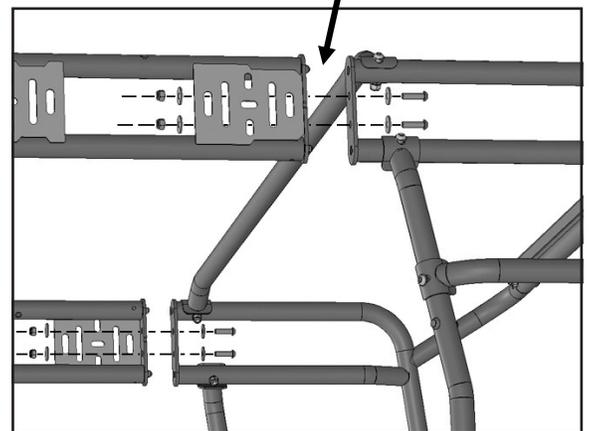

FIGURE 18
NOTE: To clear the freedom top or soft top, insert Bolts from inside to outside. After Bolts have been fully tightened, cover Lock Nuts on end of Bolts with included Plastic Caps. Attach the rear of the Side Rail to the front of the Rear Corner Assembly with (2) 8mm x 30mm Button Head Bolts, (4) 8mm x 24mm Large Flat Washers and (2) 8mm Nylon Lock Nuts, **(FIGURE 18)**. Repeat this Step to attach the passenger/right Side Rail to the Front Loop and Rear Corner Assembly.
- (2) 8mm x 50mm Button Head Bolts
- (4) 8mm x 16mm Small Flat Washers